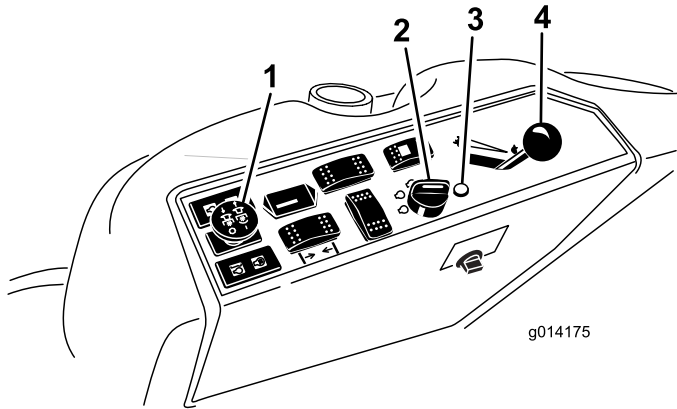

Figure 20
4. Move the power-takeoff (PTO) switch to the OFF position (Figure 20).
5. Move the throttle lever midway between the FAST and SLOW positions (Figure 20).